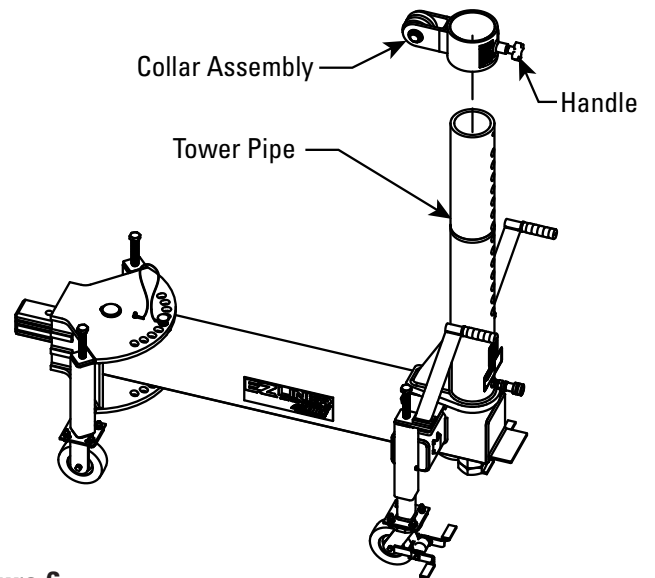

Figure 6
3. Install the Collar Assembly on the Tower Pipe (see Figure 6). Align the handle end of the Collar Assembly with the fourteen Collar Pin holes on the back of the Tower Pipe. Move the Collar Assembly vertically until the Collar Pin engages one of the Collar Pin holes on the Tower Pipe.